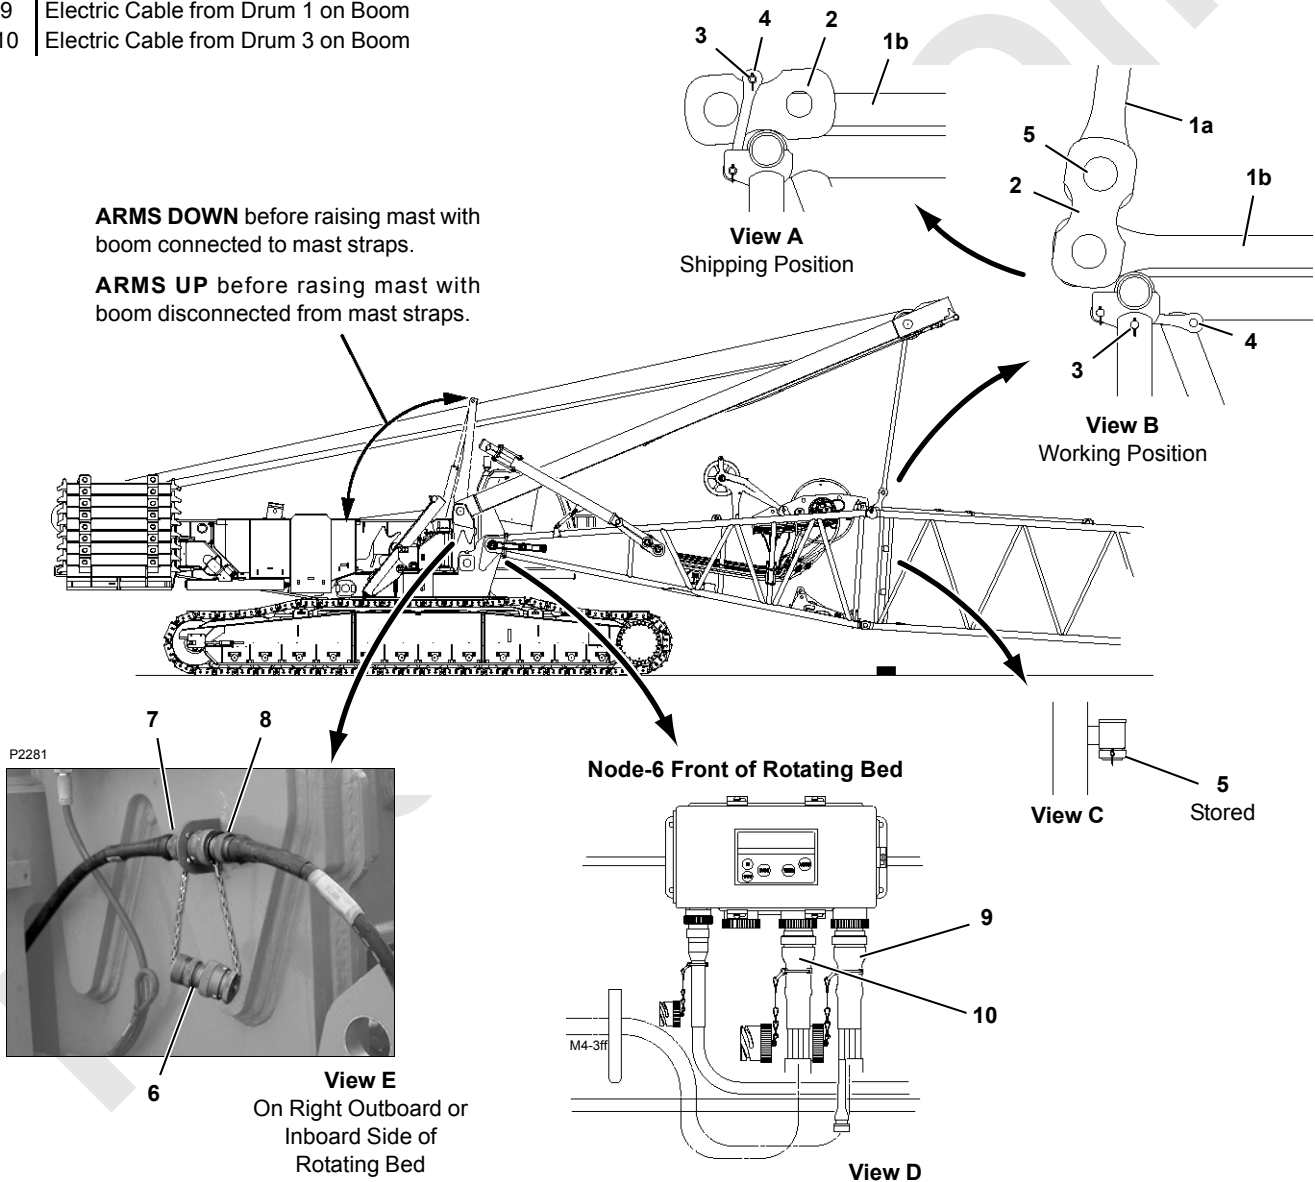

FIGURE 4-20
See Figure 4-20 for the remaining steps.
- a. Disconnect the boom electric cable (8, Figure 4-20, View E) from the crane electric cable (7).
- c. Connect the sealing cap to the electric cable (8) and store the electric cable (8) on the boom butt.
- d. Disconnect the electric cables 9 (Figure 4-20, View D) and 10 (optional) from the node on front of the rotating bed.
2. Disconnect the mast straps from the boom (see Figure 4-20):
- b. Unpin the links (2, View B) from the mast straps (1a) and store the links (2) and straps (1b) per View A.
- c. Store the pins (5) in the insert pockets (View C).